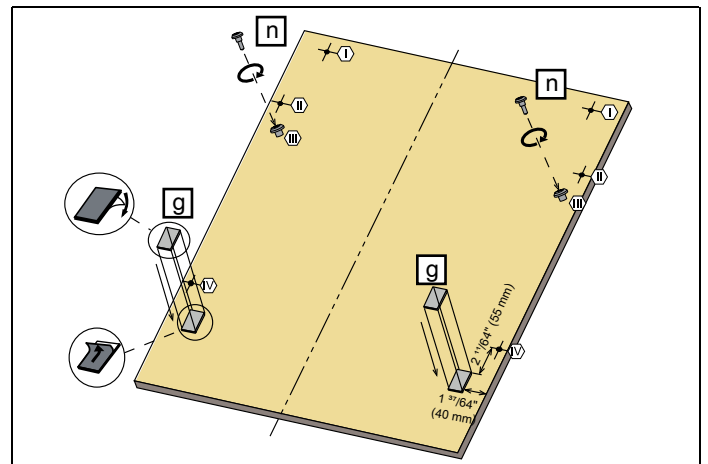

Fig. 25
3) As shown in Fig. 25, Screws $\text{Ø}5/32" \times 27/32"$ (4mm x 21.5mm) are installed in positions III.
4) As shown in Fig. 25, Wooden Door Fixing Strips are installed in the positions shown in the figure.